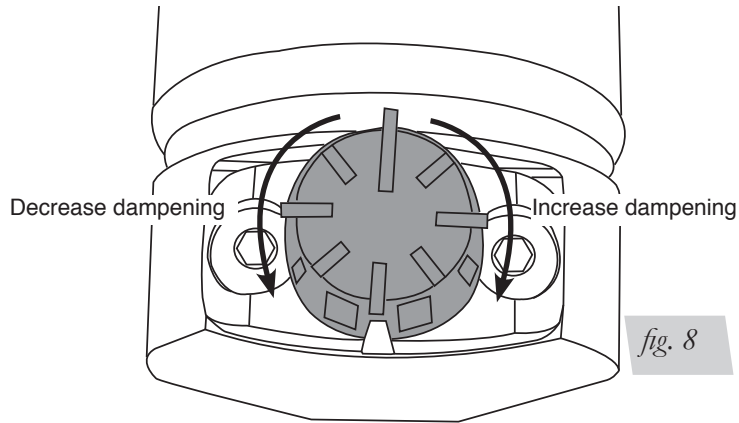

fig. 8
1. The struts for this vehicle come with a nine-position dampening dial for added adjustability (fig. 8). Before driving your vehicle, set the new struts to their highest setting by turning the black dial on the shaft of the strut as far as it will go to the right (position 9).